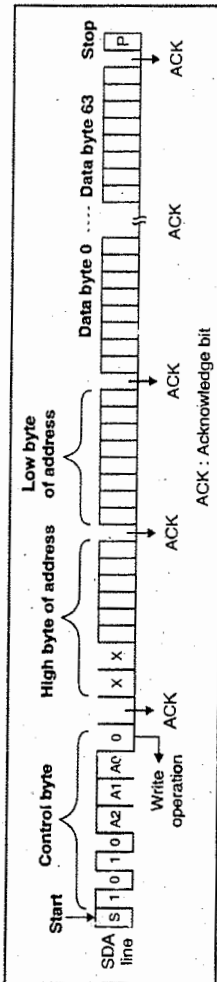

Fig. 14.12.7 : Page write operation
- The control byte and first data byte are transmitted in the page write operation similar to the byte write operation. However, in the page write operation after the first data byte, 63 more additional bytes can be transmitted as shown in Fig. 14.12.7. Then the stop bit is transmitted. On transmission of stop bit the write cycle will begin and data will be written.